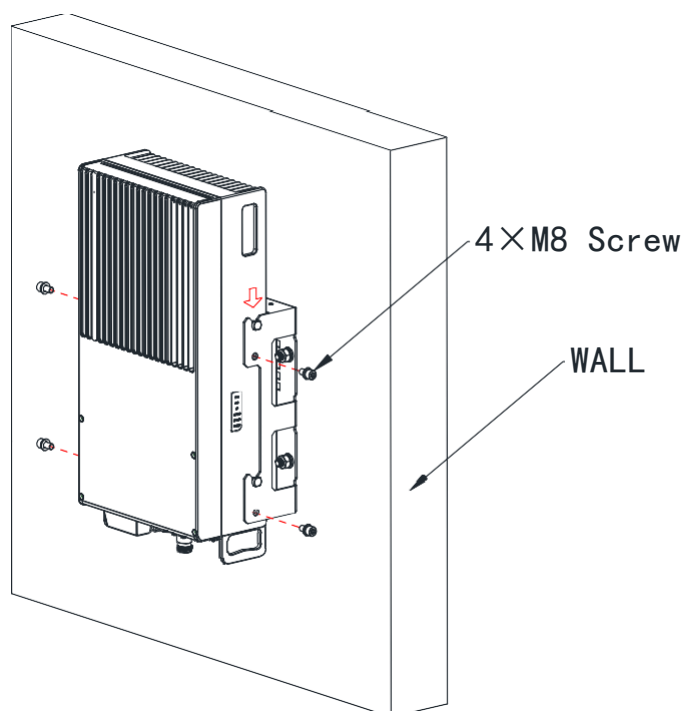

Figure 6 Wall Mounting (without Splitter)
Step3: Lift the device, align the four mounting screws with the slot of the mounting tray, and tighten the four M8 screws on the left and right sides to secure the device, as shown in Figure 6.